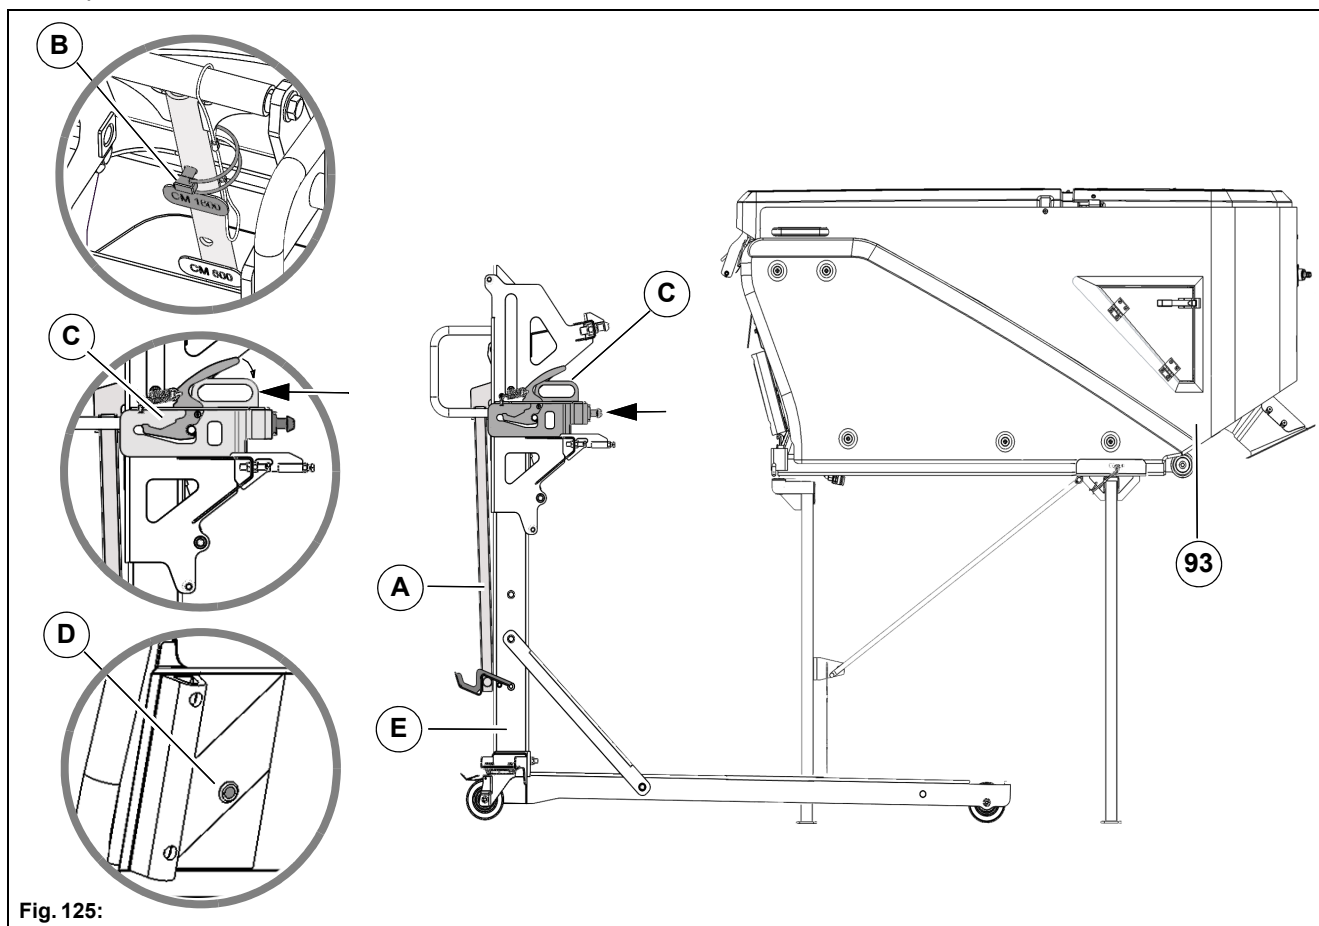

Fig. 125:
2. Unlock the lever **Fig. 125-A** of the trolley **Fig. 125-E** (optional) and swing it into the upper position.
3. Hold the lever **Fig. 125-A** in the upper position with one hand. With your other hand plug the mounting bolt **Fig. 125-B** on the Citymaster 1650.
Risk of injury! The lever **Fig. 125-A** can swing over.
4. Unlock the sledge **Fig. 125-C** with the lever and push it into the rear position.
5. Open the lock of the lid on the dirt hopper **Fig. 125-D** and swing the lid up.